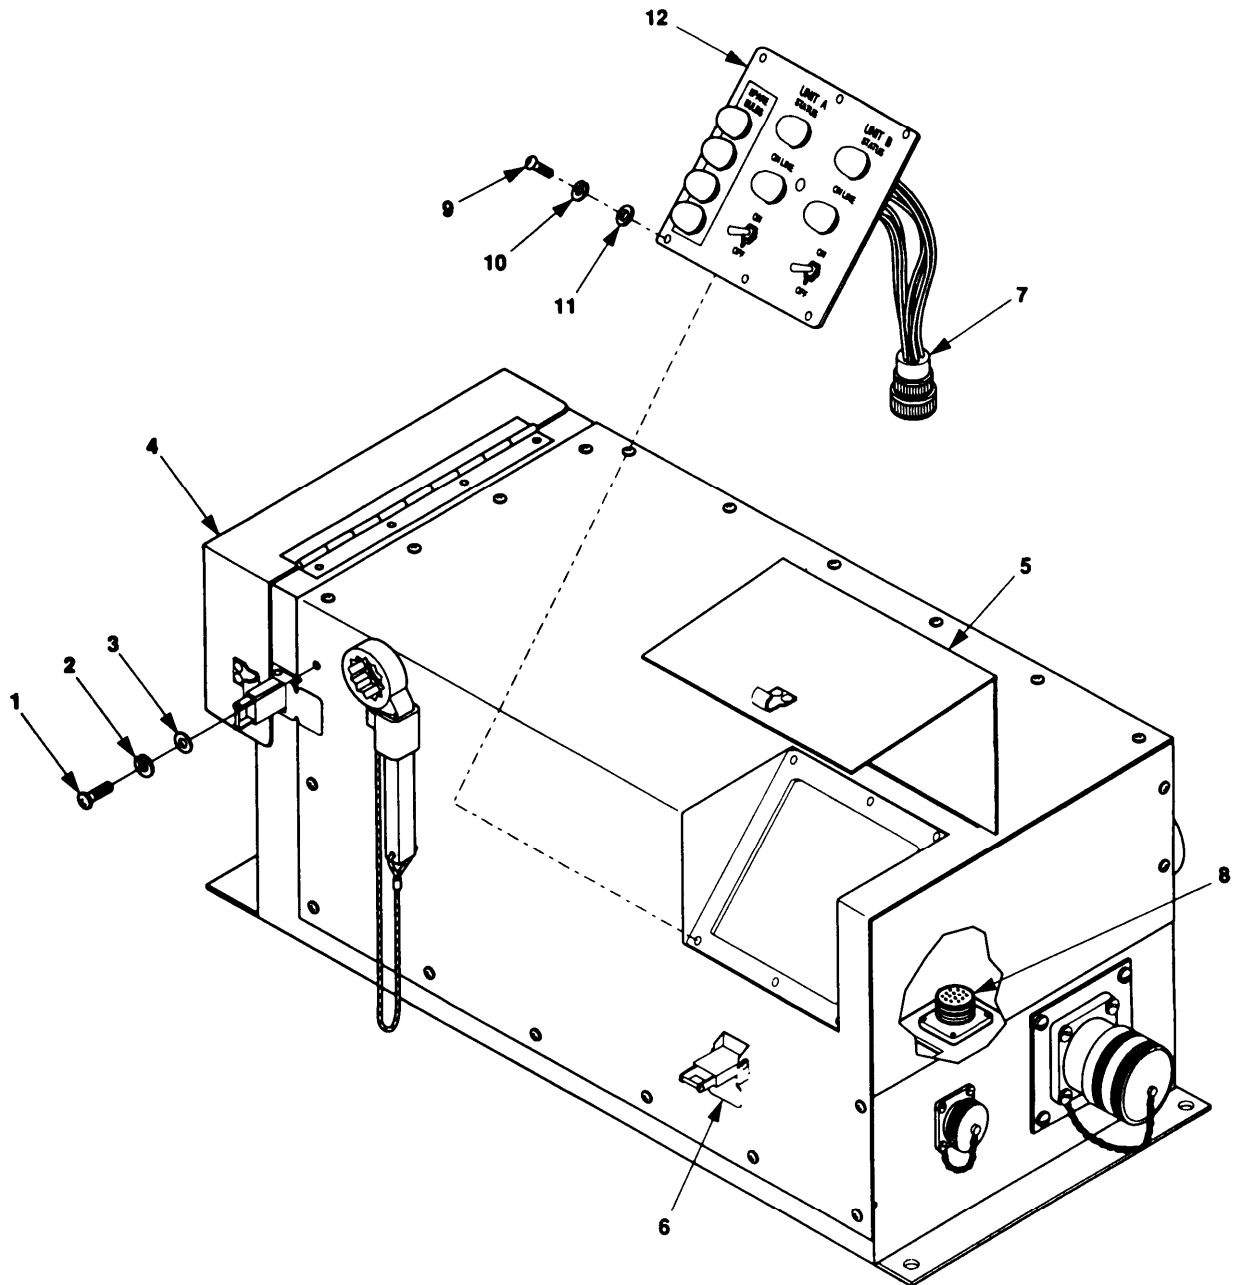

Figure 5-13. Control Panel, wiring Harnesses, and Wiring lead Maintenance.
1. Release clamping catch (6, figure 5-13) and open the control panel access cover (5).
2. Remove 8 screws (9), flat washers (11), and lock washers (10) that secure control panel assembly (12). Discard lock washers.
3. Disconnect P3 (7) from J4 (8).
4. Remove the control panel assembly (12).
1. Connect P3 (7, figure 5-13) to J4 (8).
3. Install new lock washers (10), flat washers (11), and screws (9) that secure control panel assembly (12) to switch box assembly (4).
4. Close the control panel access cover (5) and secure with clamping catch (6).
1. Remove 21 machine screws (1, figure 5-13), lock washers (2), and flat washers (3) that secure the switch box cover (4) to the switch box assembly. Discard lock washers.
1. Remove 21 machine screws (1, figure 5-13), flat washers (3), and lock washers (2) that secure the switch box cover (4) to the switch box assembly. Discard lock washers.